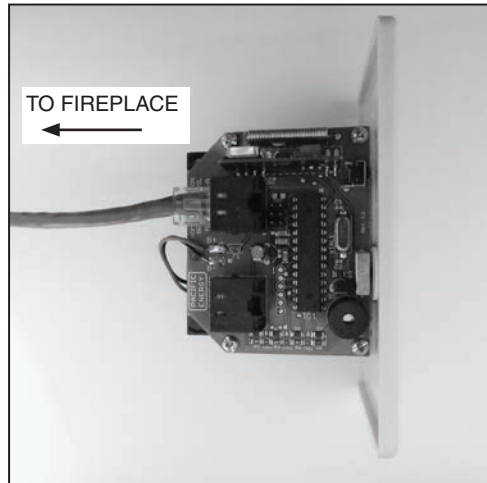

Figure 25: Wall switch - electronics side.
6. Route the wall switch control cable (supplied) as required to the wall switch (Figure 25).
7. Attach one end of the wall switch control cable to the wall control. (Figure 25) , and the other end to the interface board (Figure 23).